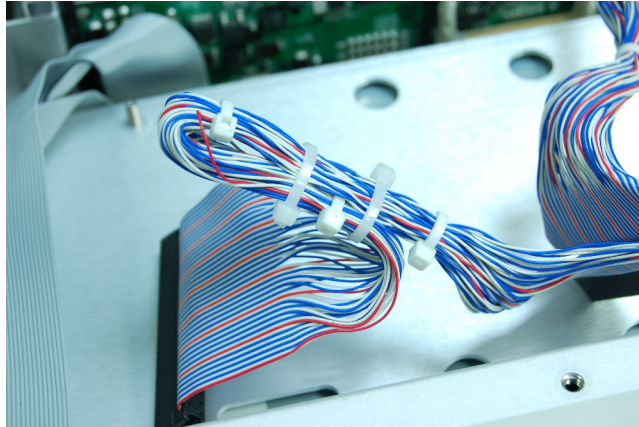

Figure 10: IDE cable wrapped with cable ties
7. Wrap the black end connector back against the IDE cable and secure it with two cable ties (part number 343-0549-xx) as shown in Figure 10.